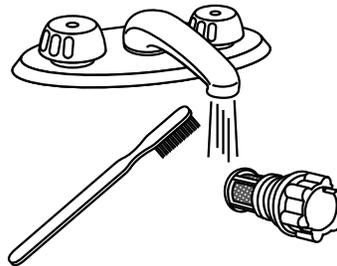

Figure 9: Cleaning the filters.
7. **Clean the filter.** With a small brush, clean the water filter of any debris which may have accumulated. (See Figure 9). When the filter is clean, reinstall it.